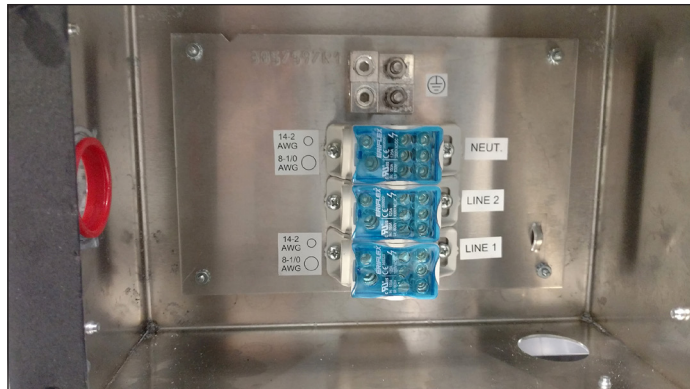

Figure 7: Power Entrance Box
6. Connect primary power lines to appropriate taps in enclosure, shown in **Figure 7**. Refer to label on enclosure for wiring diagram.